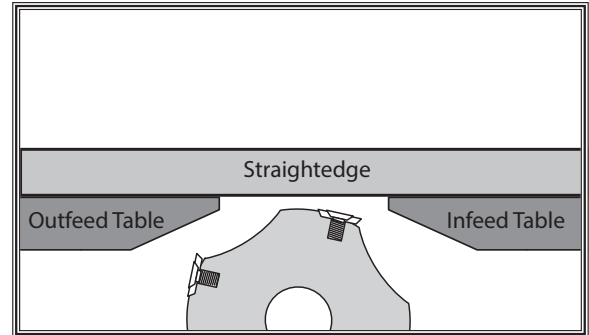

Figure 39. Example of infeed and outfeed table height set evenly.
2. Insert included Torx driver into cutterhead rotation guide and rotate cutterhead so knives/inserts will not interfere, then place straightedge on infeed and outfeed tables and adjust infeed table even with outfeed table, as shown in **Figure 39**.